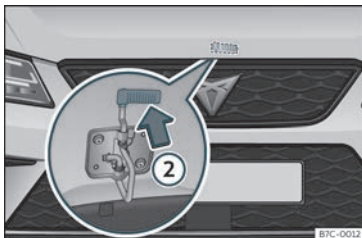

Fig. 255 Cam under the bonnet
- To lift the bonnet, press the release catch under the bonnet upwards >>> Fig. 255 ②. The arrester hook under the bonnet is released.